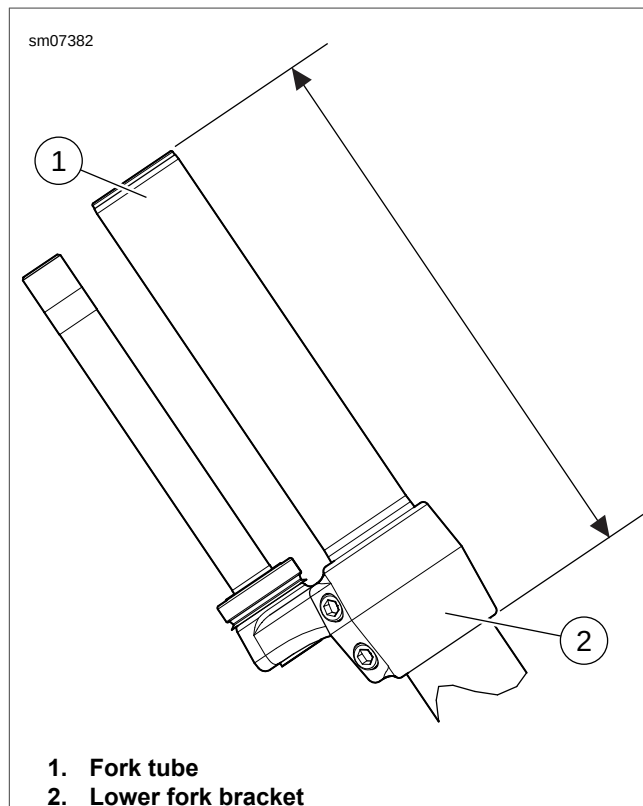

Figure 2-118. Fork Tube Protrusion
- See Figure 2-118. Measure protrusion from bottom of the lower fork bracket (2) to top of fork tube (1). Both sides must have exactly the same protrusion and measure 312.9-318.9 mm (12.32-12.56 in).